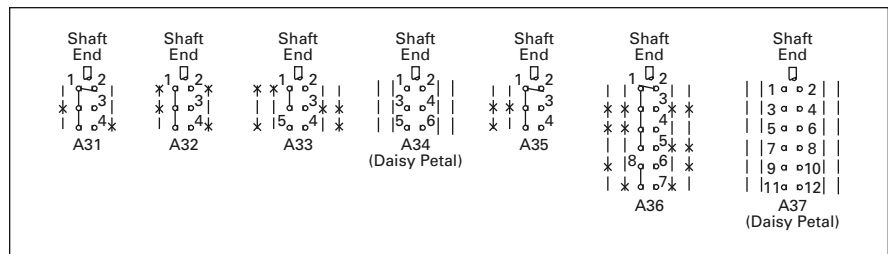

Figure 15. Contact Closure Sequence
**Note:** See contact closure sequence in **Figure 15** on **Page 28**.